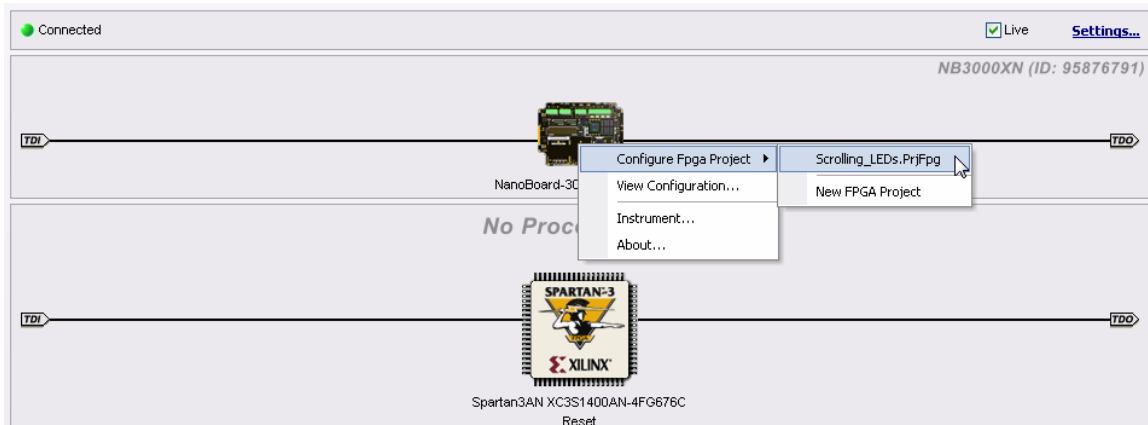

Figure 23. Configuring the project, this connects the signals on the NanoBoard through to the pins used in the FPGA design.
71. Ensure the NanoBoard 3000 is connected to your PC via a suitable USB cable, and that the **Live** checkbox in the Devices view is checked. If it is correctly connected an icon for the NanoBoard will appear at the top of the Devices view and the small **Connected** icon at the top left of the Devices view will go green, as shown in Figure 23.
72. Right-click the NanoBoard icon and select **Configure FPGA Project»Scrolling\_LEDs.PrjFpg** to auto-configure the design, as shown in Figure 23. The *Configuration Manager* dialog will open, click **OK** to accept the configuration and close the dialog. The build flow buttons should now appear just below the NanoBoard icon, as shown in Figure 24.